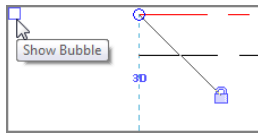

FIGURE 3.17: You can click the box that appears, to turn on the level information at the other end of the building.
To follow along, pan over to the left side of the building, where the level lines seem to stop, as shown in Figure 3.17. Then perform these steps:
2. Pick the small blue box to the left of the level. Doing so turns on the level information at that end of the building (see Figure 3.17).